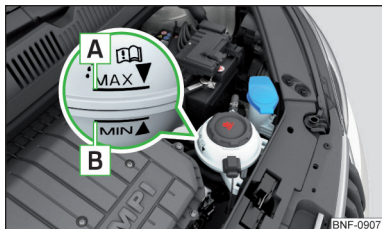

Fig. 142
Check the coolant level - The coolant level must lie between the marks **A** and **B** » Fig. 142. If the coolant level is below the mark **B**, top up with coolant.
The **specification** for the coolant is shown in the coolant expansion reservoir » Fig. 142.
■ Do not fill the coolant above the mark **A** » Fig. 142. The coolant could, when heated, be expelled from the cooling system - risk of damage to the engine parts.